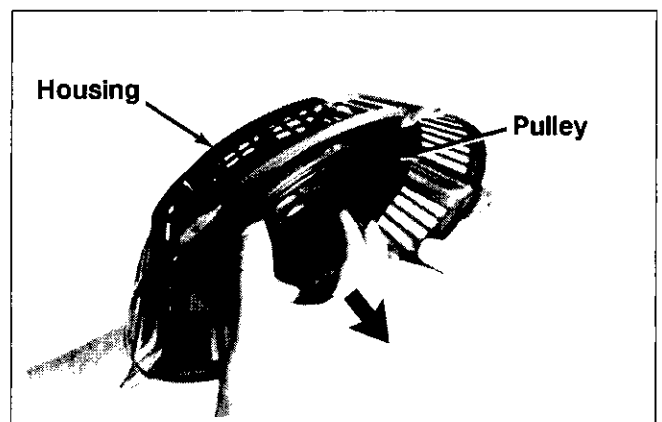

Figure 7-6. Removing Pulley from Housing.
7. Rotate the pulley slightly from side to side and carefully separate the pulley from the housing. See Figure 7-6.